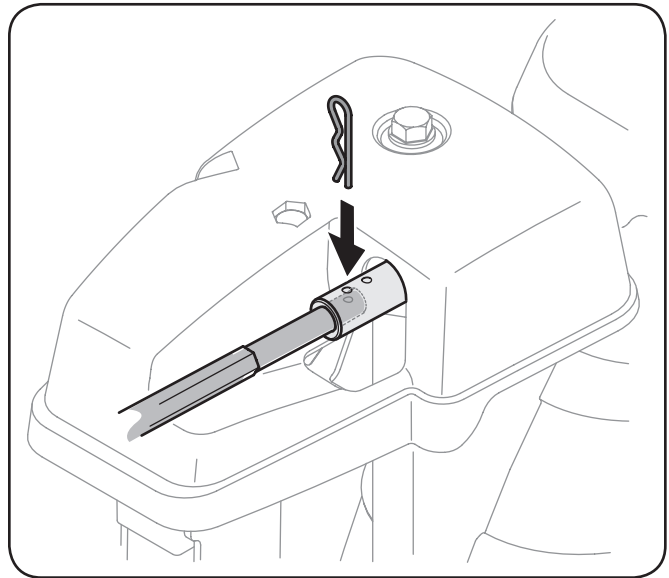

Figure 6-7
2. Pull out the chute control rod until the hole in it lines up with the second hole in the chute rotation assembly. See Figure 6-7.
3. Reinsert the hairpin clip through this hole and the chute control rod. See Figure 6-7.